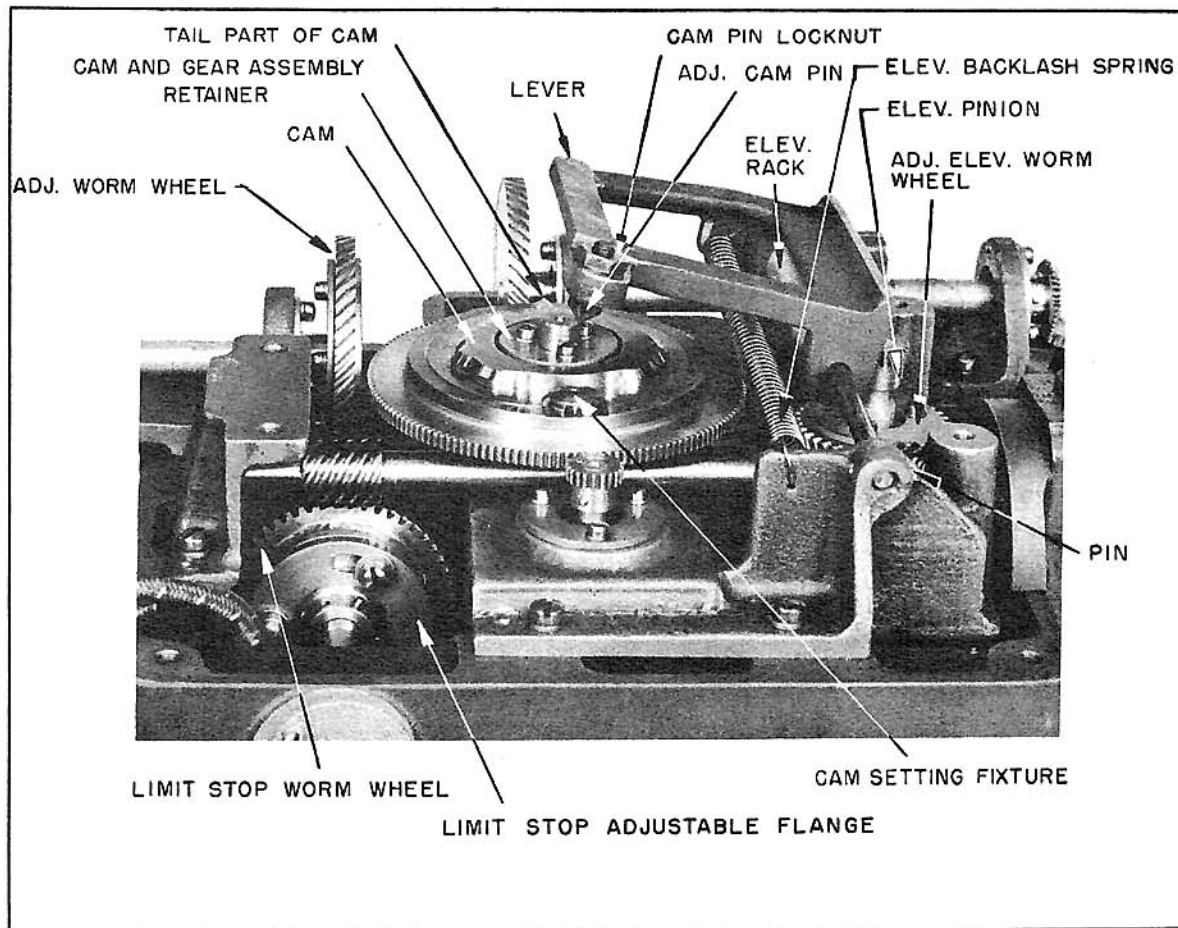

FIGURE 5
(b) Loosen the 3 retainer screws on the adjustable elevation worm wheel which moves the elevation rack. (See Figure 5.)
(f) Loosen the 3 screws on the limit stop adjustable flange and move the flange until the screws are at the extreme right of their slots, as in Figure 5.
(g) Move the worm wheel of the elevation bracket assembly in the direction of the front of the turret until it will move no farther. Referring to Figure 5, the top of the worm wheel should be moved toward the reader. Tighten screws on elevation rate bracket worm wheel.
(c) If either firing solenoid can be operated when either of the guns is pointed at any portion of the airplane or its accessories, it will be necessary to readjust the fire cut-off in the following manner (see Figure 5):
6. Carefully seat the cam setting fixture in the hole in the cam (see Figure 5) and replace cam pin lever over the cam.